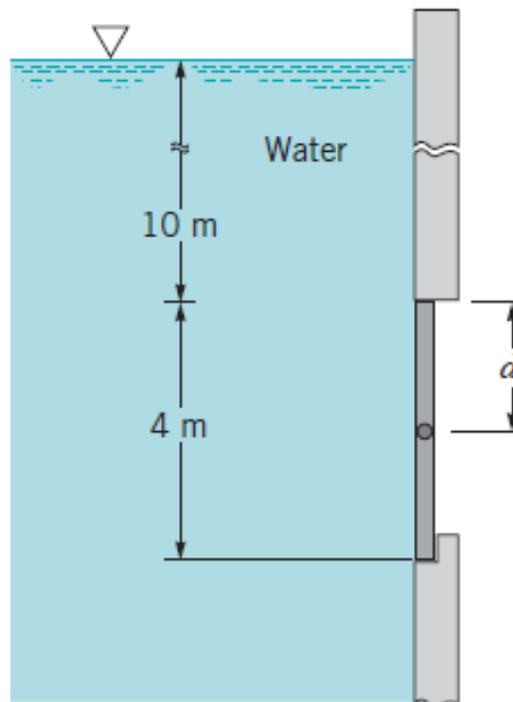

Fig. 13
14. A rectangular gate that is 2 m wide is located in the vertical wall of a tank containing water as shown in Fig. 13. It is desired to have the gate open automatically when the depth of water above the top of the gate reaches 10 m. (a) At what distance, d , should the frictionless horizontal shaft be located? (b) What is the magnitude of the force on the gate when it opens?